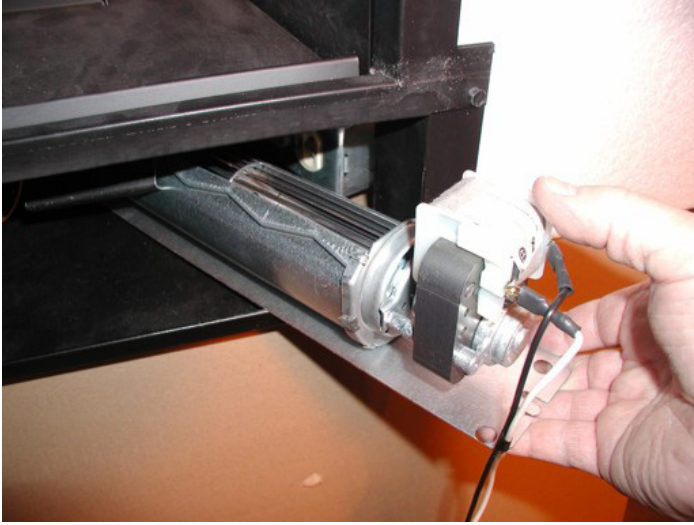

Figure 7
4. To insert the blower assembly, place the blower on its back as shown in Figure 7 and 8. Make sure the pilot tubing and wiring in the bottom cavity of the fireplace are routed to the left of the pilot connections.